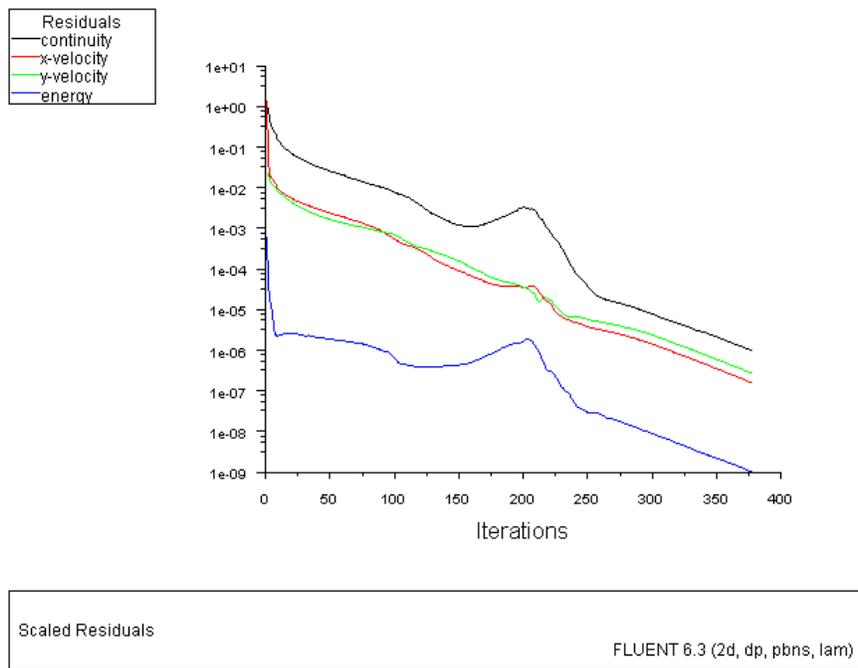

Figure 3.3: Scaled Residuals
*The solution converges in about 380 iterations, with specified convergence criteria. The residuals plot is shown in Figure 3.3.*